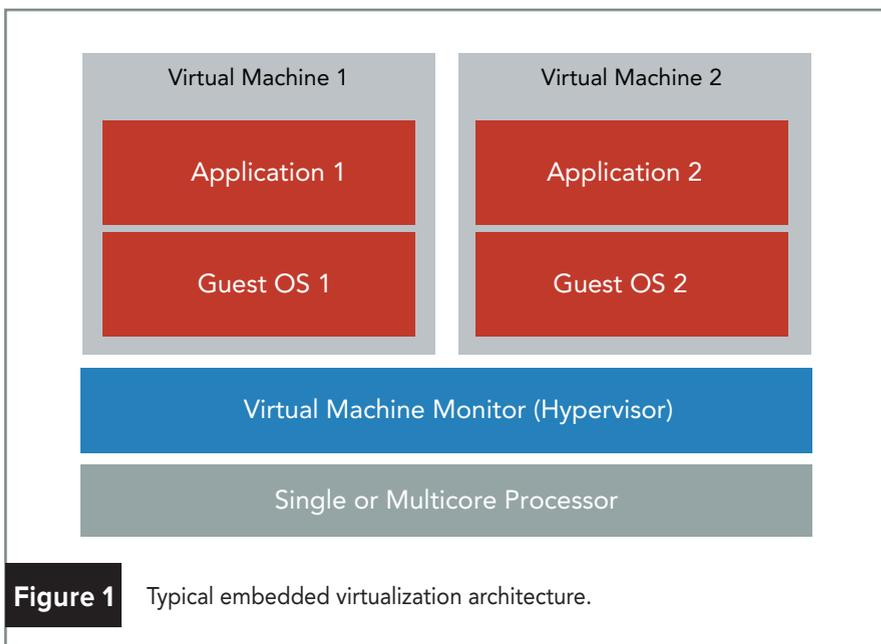

Figure 1 Typical embedded virtualization architecture.
Figure 1 shows a general embedded virtualization architecture. For enterprise Virtual Machine (VM) applications, it's typical to have a "host" OS, then running within the host OS
a virtual machine running the “guest” OS. Figure 1 shows a component called a Virtual Machine Monitor (VMM) or hypervisor. In embedded systems, this hypervisor is a “to the metal” software layer that abstracts and partitions memory and I/O resources between the virtual machine environments. This approach leads to greater security and isolation between the two virtual environments as well as providing higher performance within each VM.